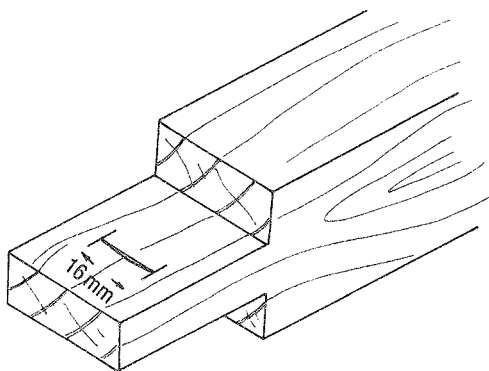

Fig. 4.56 Score mark left by spur cutter.
- Turn the block by hand to allow the spur to score a mark or groove across the tenon (Fig. 4.56).